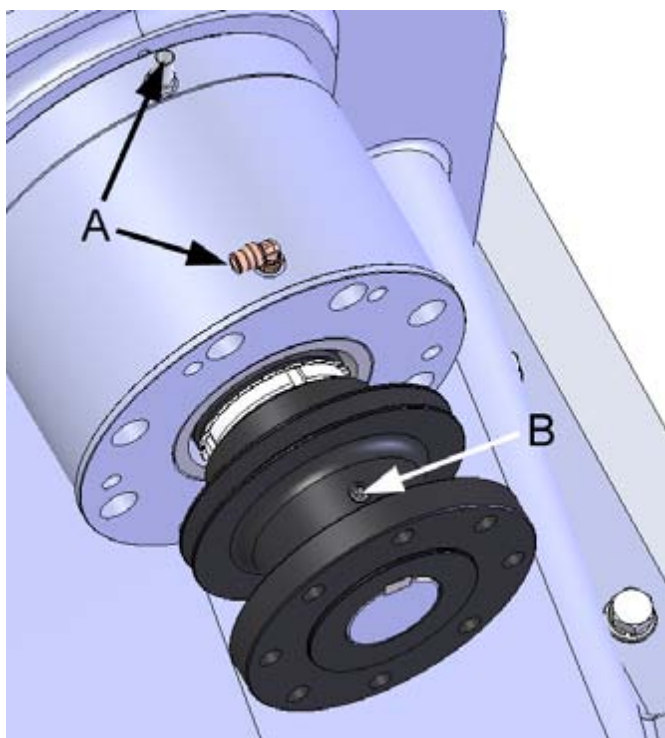

Figure 2. Lubricating oil reservoir connectors
1. Detach the lubricating oil reservoir hoses from the bearing housing connectors (figure 2, point A) and drain the oil from the system.
First remove the set screw located on the side of the bearing housing body (figure 2).